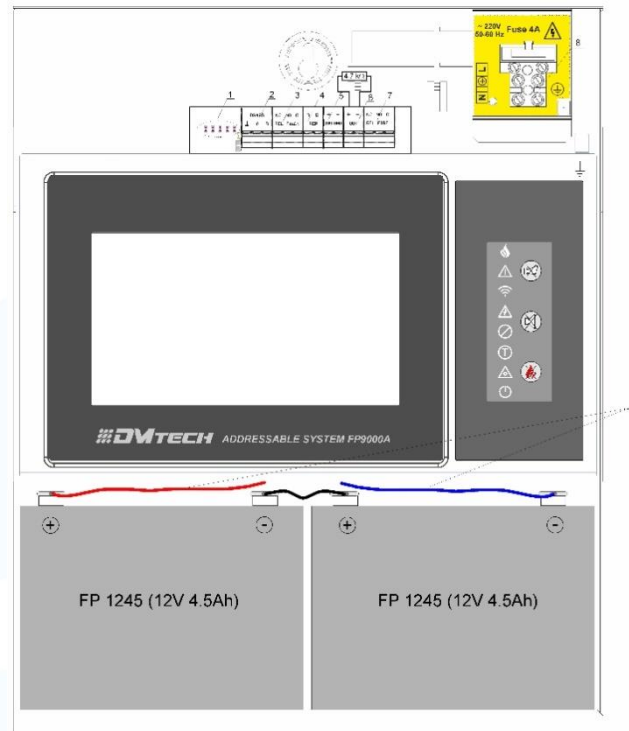
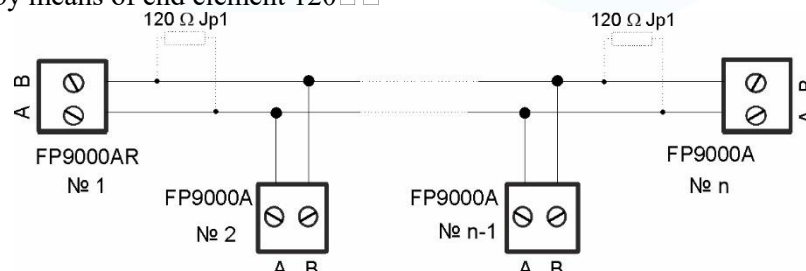

Fig. 4
Fig. 5
**5.4. Terminal order on the panel** - In fig. 4 with positions 1-8 show the main connections of the repeater with the periphery controlled by it.
**5.4.1. Main functions of the panel** - a brief description of the main positions in fig.4
- pos. 1 – light indication of current status
- pos. 2 – RS 485 (E, A, B) - Used to connect the repeater to centrals. Holds up to 16 panels. The connection direction A-A must be observed; B-B; Shown in Fig.5.
- pos. 3 – Pins NC (Normally Closed Contact), NO (Normally Open Contact), C on Fault Relay
- pos. 4 – A B (REP) – For connection between two repeaters
- pos. 5 – Power supply +/- 28V
- pos. 6 – Controllable output. Controlled by panel settings, line integrity monitors. A 4.7kΩ terminal element is required
- pos. 7 – Terminals NC (normally closed contact), NO (normally open contact), C relay Fire – activated in "Fire Alarm" mode Terminals NC (normally closed contact), NO (normally open contact), C